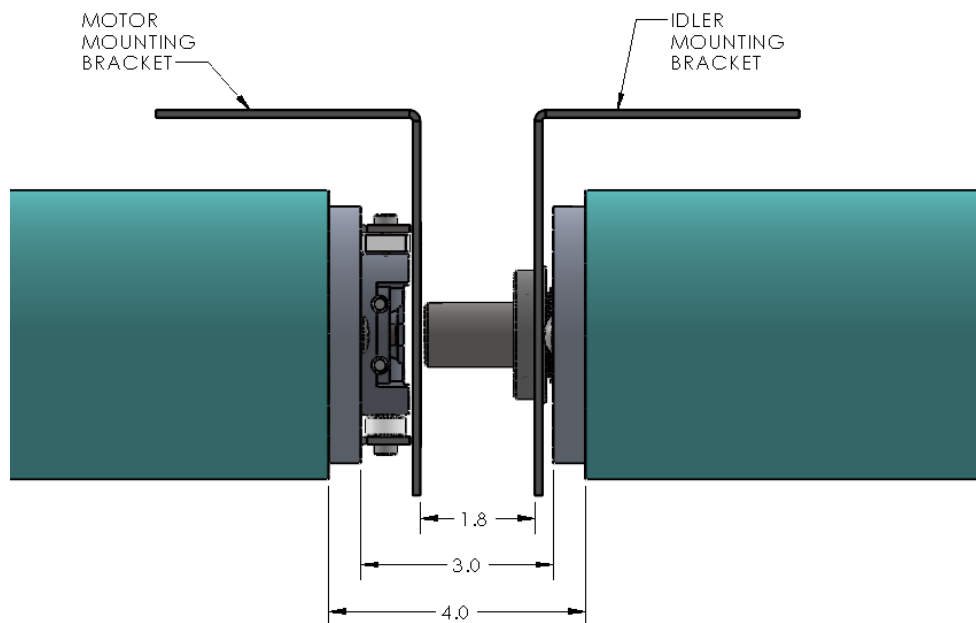

Figure 4 Mounting Bracket Spacing
11. Measure 1-3/4" from the outer surface of the Motor Mounting Bracket. (Figure 4 Mounting Bracket Spacing)